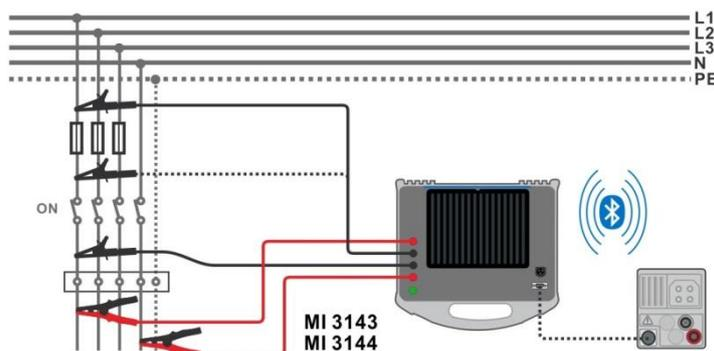

Figure 7.50: High Current resistance measurement
- › Connect test leads to the object under test. See **Figure 7.50**.